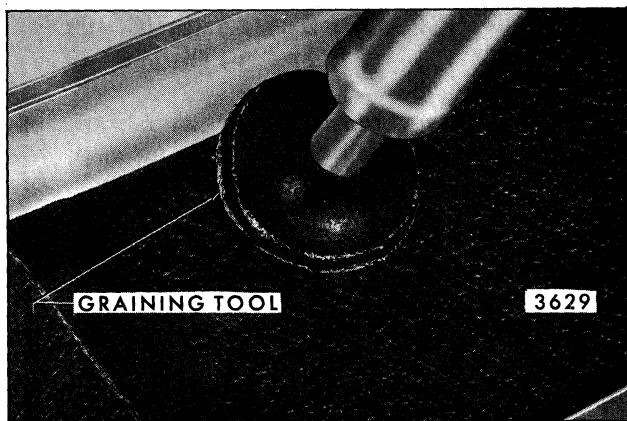

Fig. 8-66-Vinyl Patching Compound Curing and Graining
4. Graining operation is performed by exerting light hand pressure and applying preheated graining iron over damaged compound filled area for approximately one and one-half minutes (see Figs. 8-66 and 8-67). Curing and graining time can be increased slightly depending on size of repair.